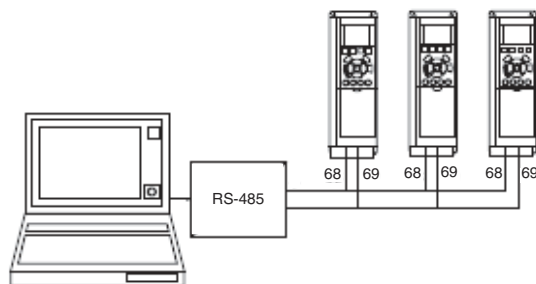

**Fig. 72 — RS-485 Connection Example**
**RS-485 Serial Bus Connection** — One or more frequency converters can be connected to a controller (or master) using the RS-485 standard interface. Terminal 68 is connected to the P signal (TX+, RX+), while Terminal 69 is connected to the N signal (TX-,RX-). If more than one frequency converter is connected to a master, use parallel connections. See Fig. 72 for an example.